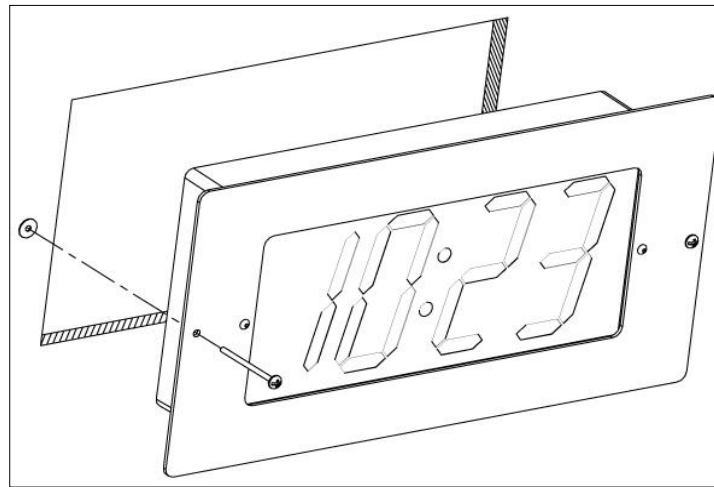

Figure 13: Clock/Flush Mount Assembly
8. Place the clock/flush mount assembly in the hole and re-install the screws, as seen in Figure 13.